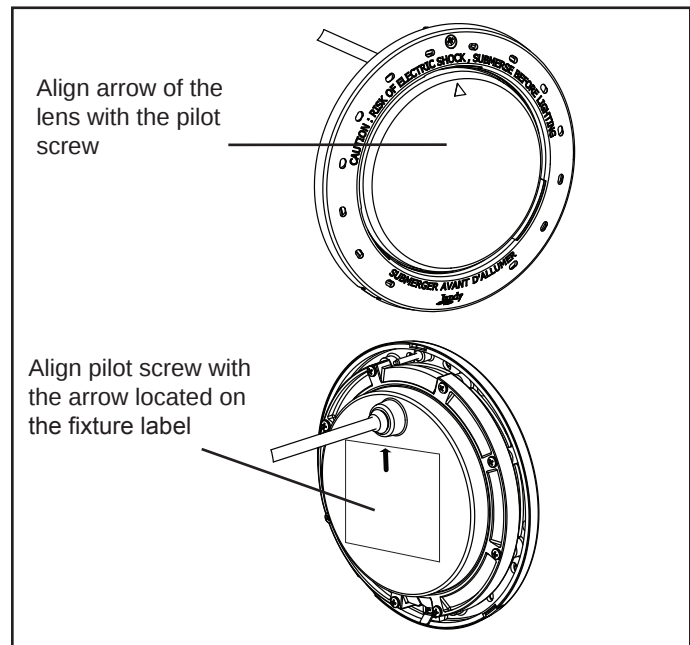

Figure 9. Alignment of the Lens, Face Ring, Housing and Clamps for White LED Lights
3. Position the lens and gasket on the fixture. Place the face ring assembly over the lens and align the pilot screw with the small arrow mark on the face of the lens. Note that the small arrow mark on the face of the lens and the pilot screw of the face ring must be aligned with the arrow located on fixture label that reads, “Arrow on this label must line up with the pilot screw on the Face Ring”. See Figure 9.
6. Tighten the Phillips head screws (eight (8) for large light and six (6) for small light) on the light in alternating cross-pattern. Torque screws to approximately 25 in-lbs.